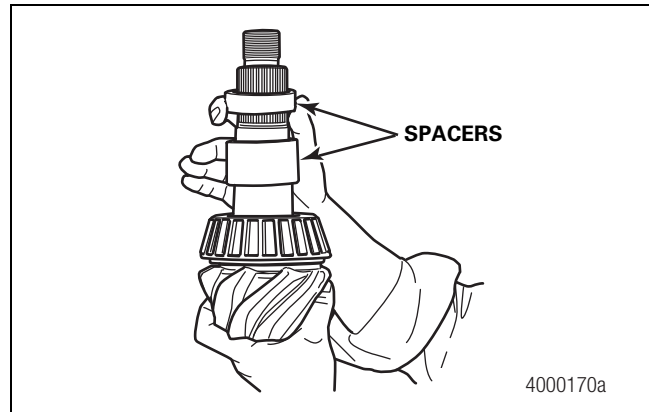

Figure 5.2
3. Place the bearing spacer and variable spacer onto the pinion shaft against the inner bearing cone. Figure 5.2.